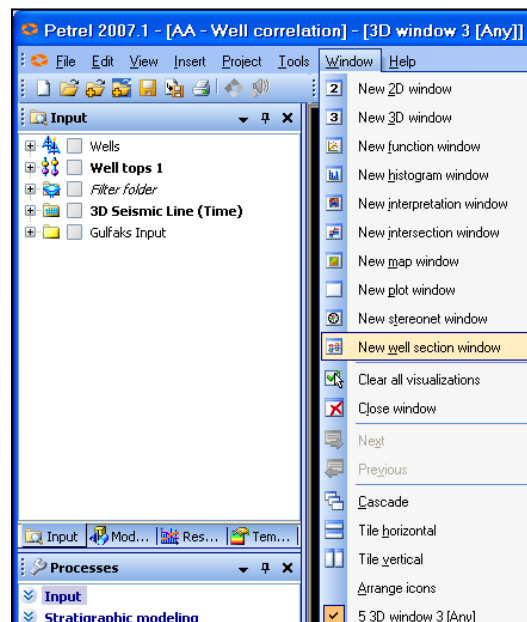

Fig. 10.1: The New Well Section Window menu command
1. Click the **Window** menu command and choose **New Well Section Window** as shown in Fig.10.1.